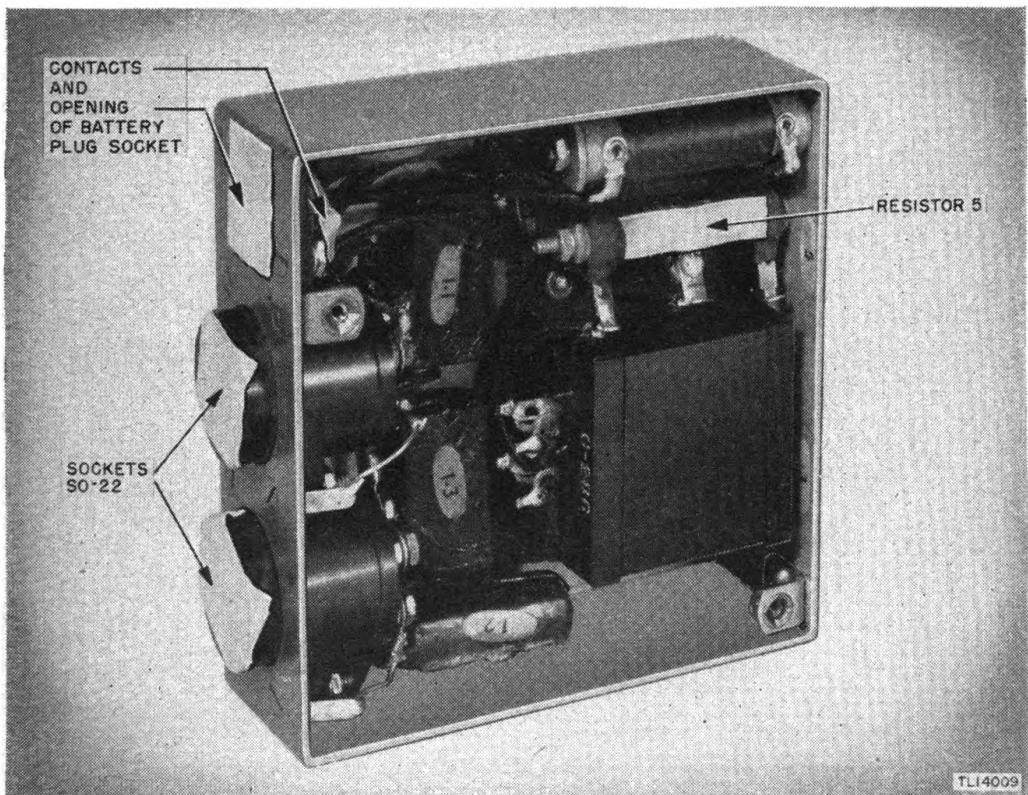

FIGURE 38.—Filter FL-10—interior view showing method of masking parts.
b. Disassembly.—(1) Remove the two screws holding the cover to the case and remove cover.†
(2) Clean all dirt, oil, dust, rust, grease, fungus, etc., from the equipment to be processed.
c. Masking.—Cover the following parts with masking tape as shown in figure 38.